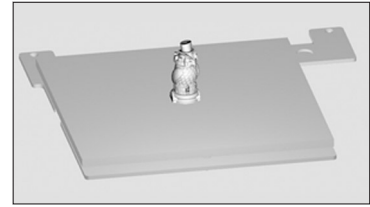

Fig. 67
3. The second part will open in the center of the bed and appear to be merged with the first part. (Fig. 67)